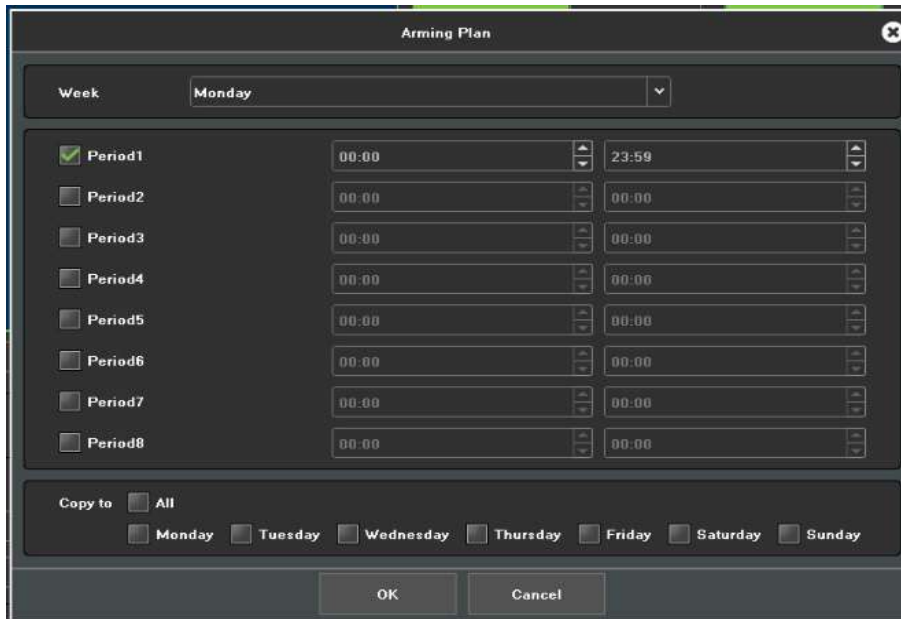

Figure 8.2 Arming Schedule
4. Click **Setting** button to set the record time, as shown in Figure 8.2.